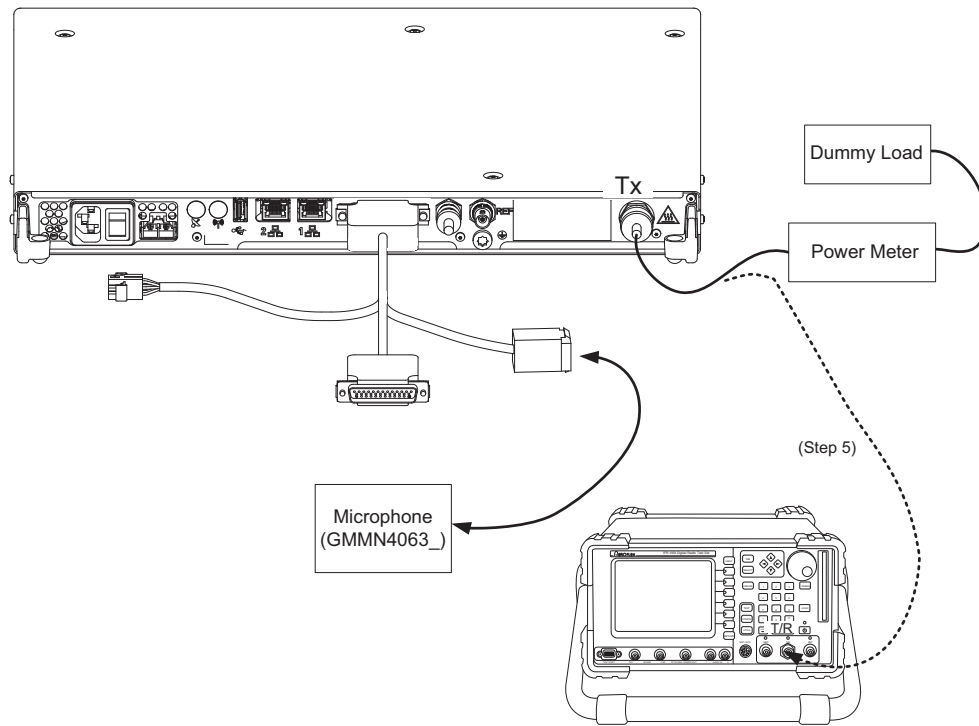

Figure 9-1 Test Equipment Setup for Verifying Transmitter Circuitry
1. Connect and set up test equipment as shown in Figure 9-1.